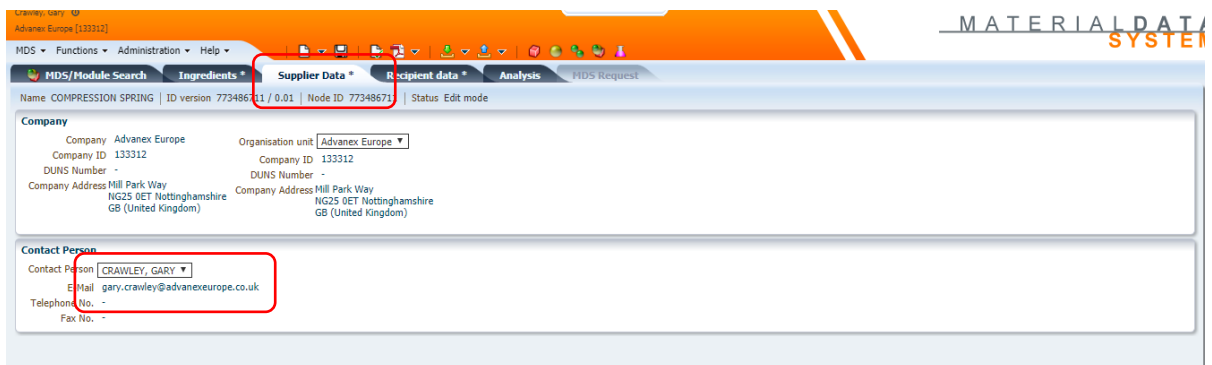

Fig.7
11. Click the 'Supplier Data' tab. Enter a contact person from the drop down. (Fig7)